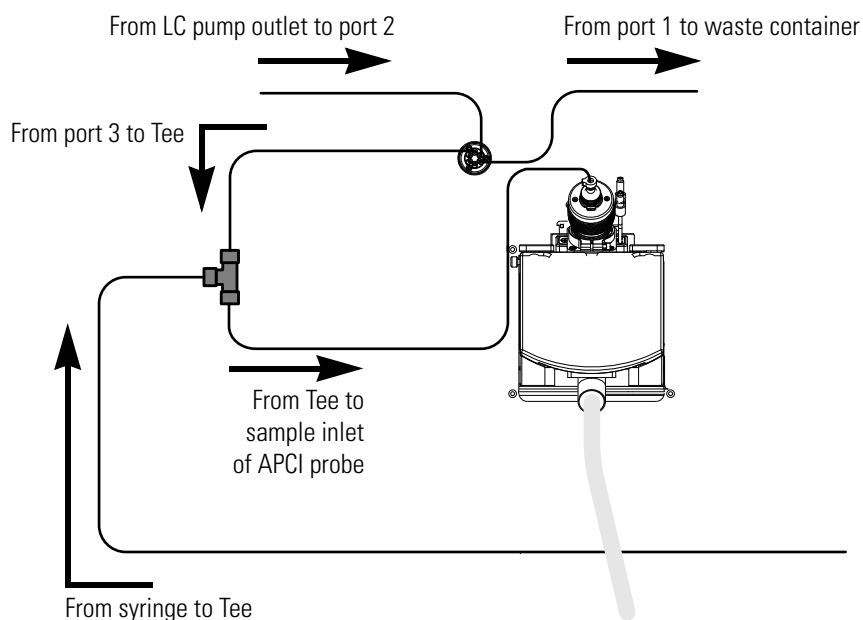

Figure 5-13. Plumbing diagram showing APCI/MS sample introduction with high-flow infusion
1. With a fingertight fitting and a ferrule, connect one end of a length of red PEEK™ tubing to the union Tee. Figure 5-13 shows the connections to the union Tee.
- For the APCI probe, use a fingertight fitting and a ferrule to connect the other end of the tubing directly to the sample inlet of the APCI probe. Figure 5-13 shows the connection between the union Tee and the sample inlet of the APCI probe.